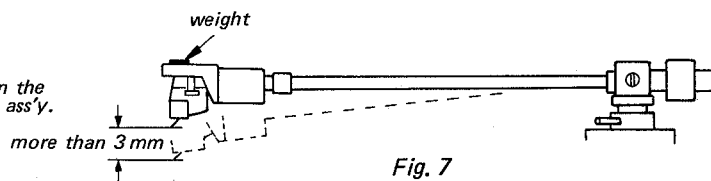

Fig. 7
- 3) Install the tonearm, and make the balance adjustment with the two bearings. (Refer to Fig. 7 and Fig. 8.)